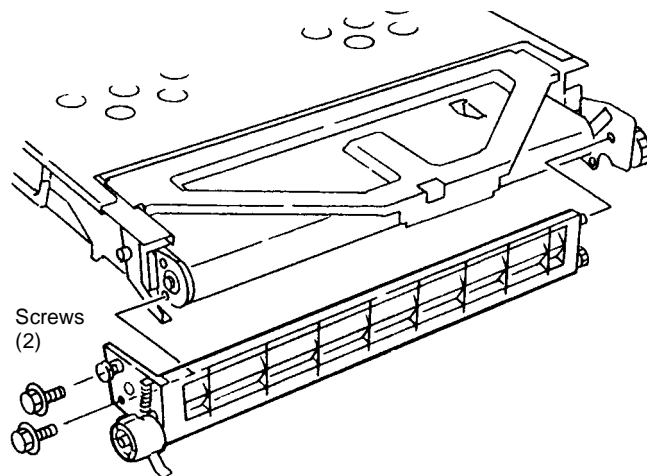

Figure 1 Removing IBT Cleaner Assembly
5. Remove Screws and remove Belt Cleaner (Figure 1).